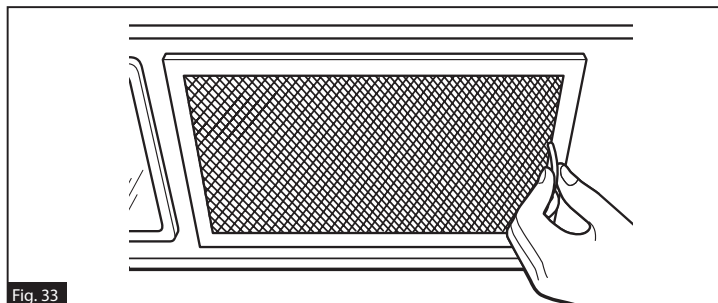

Fig. 33
5. Install the grease filters. (Fig. 33)